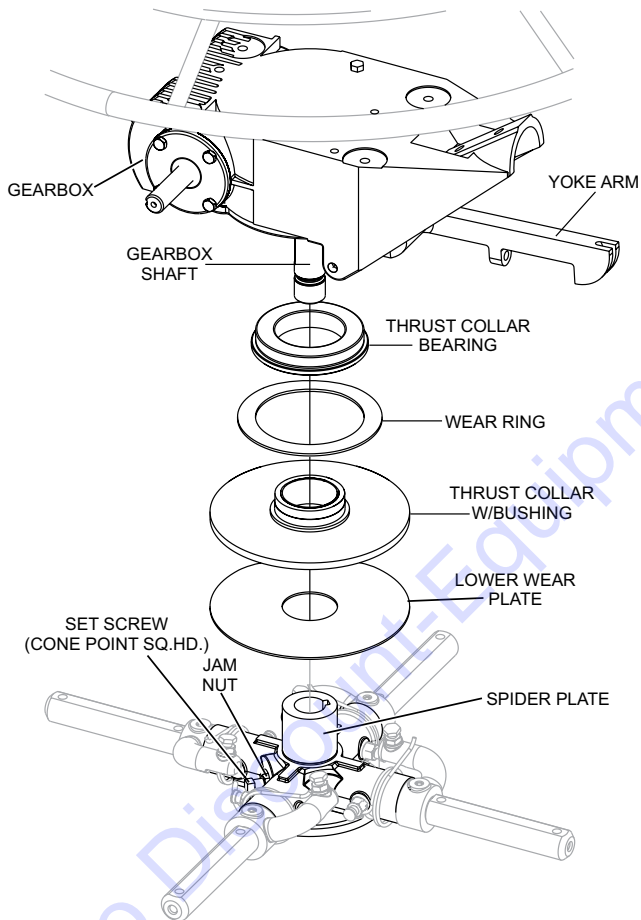

Figure 22. Spider Removal
1. Locate the cone point square head set screw (Figure 22) and attached jam nut found on the side of the spider assembly.